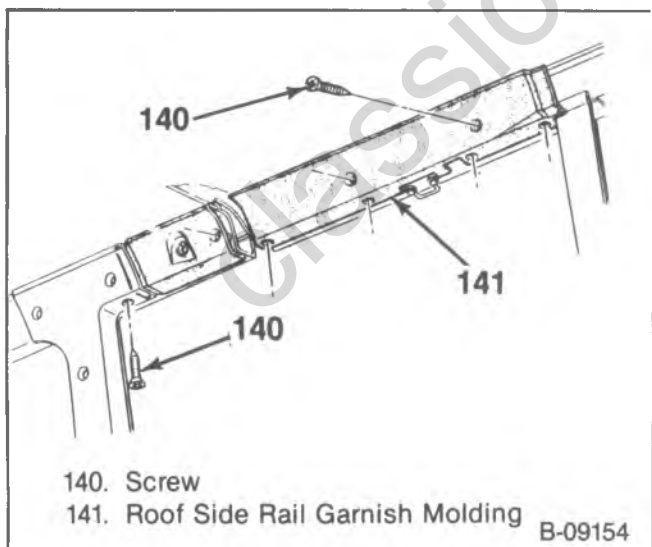

Figure 47—Roof Rear Rail Garnish Molding
5. Roof side rail garnish molding (figure 47). For vehicles with intermediate doors only.
10. Roof side rail garnish molding and screws (figure 47). For vehicles with intermediate doors only.